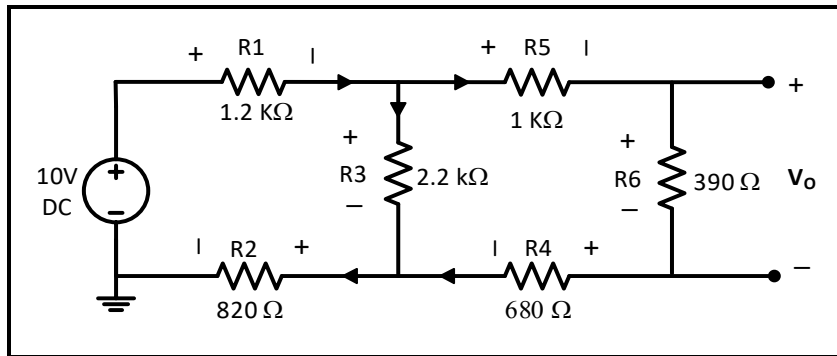

Figure 3.4
1. Simulate the circuit of Figure 3.4 using PSPICE to find the voltage across and the current through each resistor.
1. Connect the circuit of Figure 3.4, set V_{in} to 10 V.